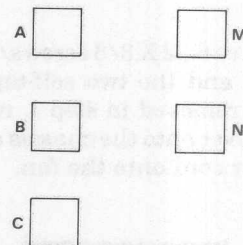

Figure 2-6A. iSBC 604 Cardcage Wirewrap Posts
- 18) Remove the wire connecting wirewrap post B to post N on the original cardcage. Reference figure 2-6A.